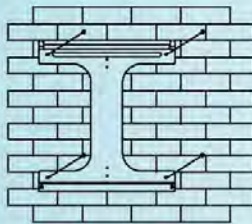

Fig. 4
- Use the mounting frame supplied as a drilling template (Fig. 4).